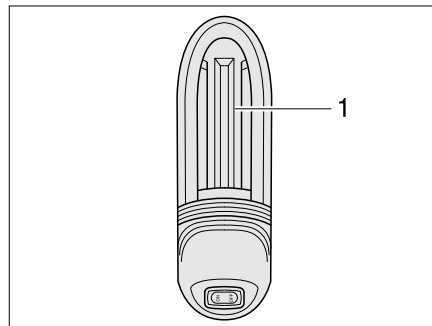

Fig. 380 Garage light
- Push the light covering (Fig. 380,1) up slightly and remove it.